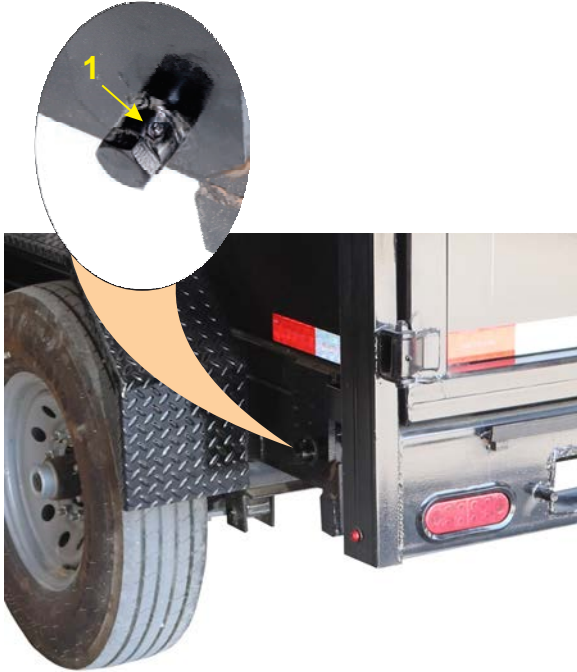

Figure 4-9 – Dump Pody Pivot Grease Zerks
- b. Dump body pivots. At the rear of the trailer there are two dump body pivots that need to be greased. There is one grease zerk (1, Figure 4-9) on each side of the trailer just behind the wheel fender. Make sure to lubricate each side of the trailer.